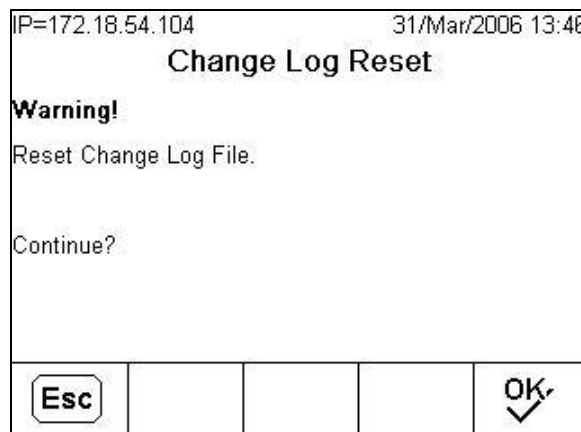

Figure C-33: Change Log Reset Screen
2. Press the RESET softkey  to reset the log file. A warning screen (Figure C-33) displays that asks for verification. All Change Log entries are deleted when the log is reset. Press the ESCAPE softkey **Esc** to cancel the operation, or the OK softkey  to confirm it.
2. Press the RESET softkey  to reset the log file. A warning screen similar to the one shown in Figure C-33 displays, asking for verification. Press the OK softkey  to continue. A status message displays verifying that the reset was successful. To return to the configuration screen without performing the reset, press the ESCAPE softkey .